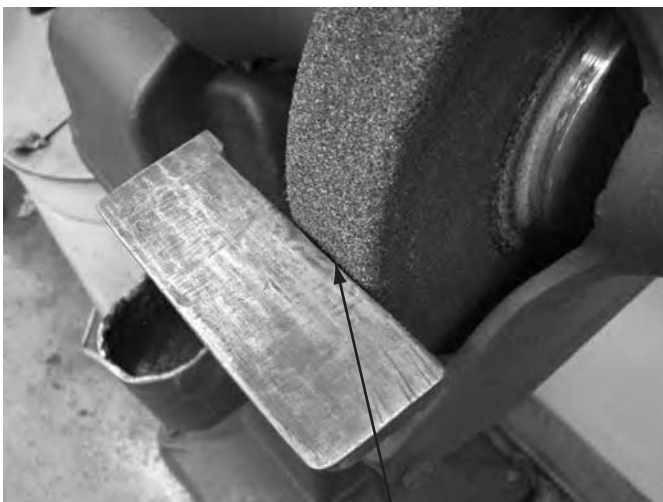

FIGURE 2.23 Position the tool rest as close to the grinding wheel as possible. (Courtesy of Tim Gilles)
- Position the tool rest as close to the wheel as possible, so that nothing can get trapped between the wheel and the tool rest (**Figure 2.23**).